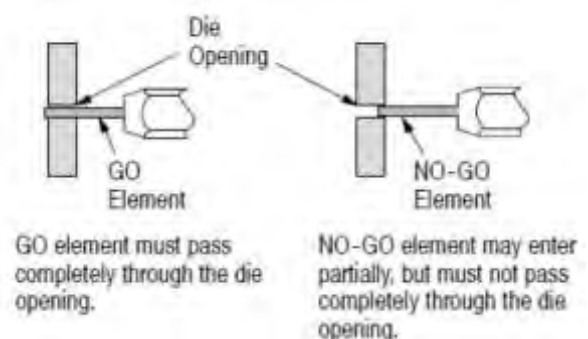

Figure 8
- (8) Squeeze the handles of the tool together until they are fully closed. DO NOT force beyond initial contact.
- (9) Insert GO element into the die opening; but do not force it. The GO element must pass through the length of the die opening as shown in Figure 8.
- (10) In the same manner, try to insert the NO-GO element into the die opening. The NO-GO element may enter partially but must not pass completely through the length of the die opening as shown in Figure 8.